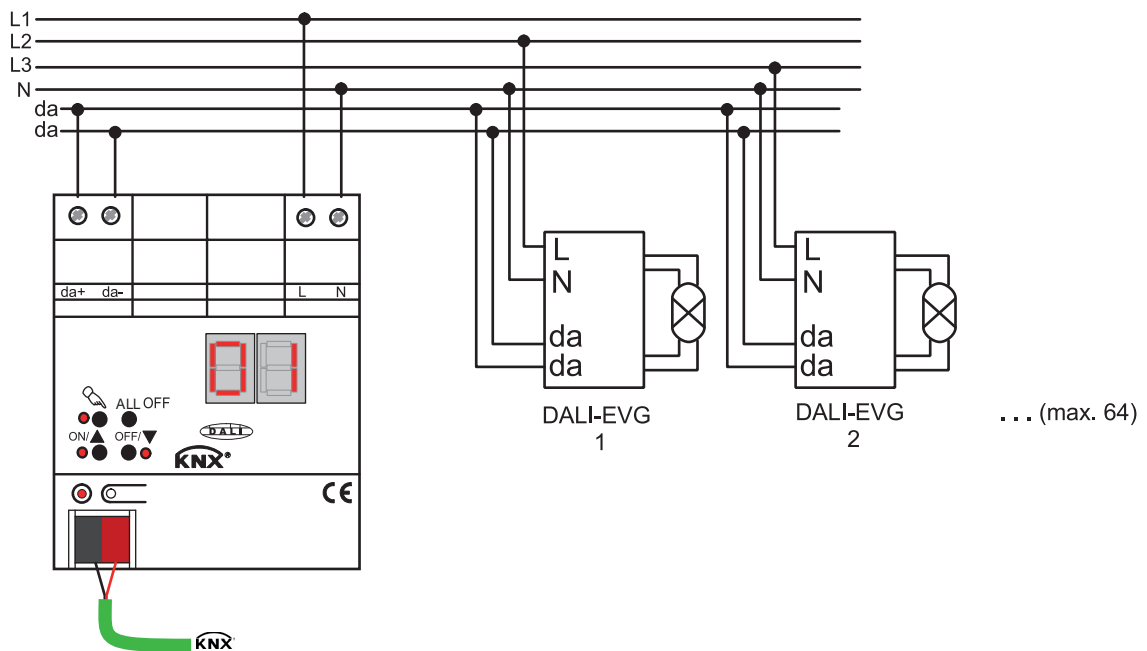

Figure 2: Electrical connection of mains voltage and the DALI interface
- Connect the mains voltage and the DALI system as shown in the connection example (Figure 2).